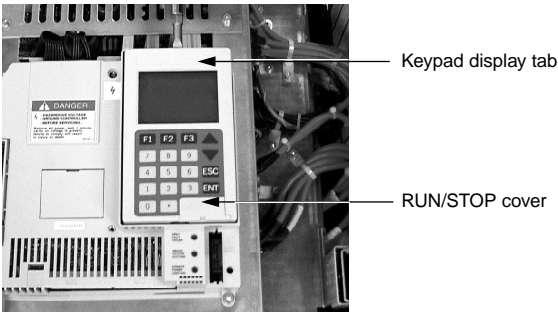

Figure 4.2.1: ATV66C10N4 to C19N4 Keypad Display
6. Remove the RUN/STOP cover, if desired (see Figure 4.2.1).